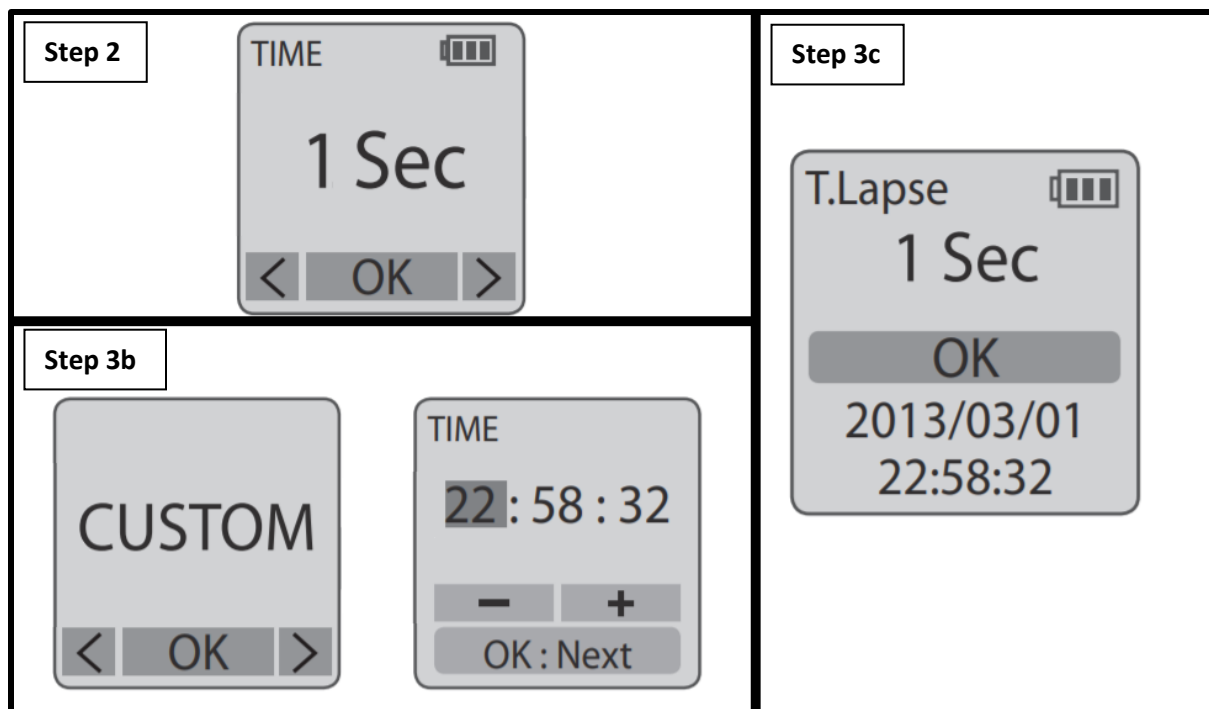

Figure A.11.2: The different “Time” screens are shown on the left. The setup screen with the chosen time interval is shown on the right.
2. Click on the “TIME” button. This will take you to the “TIME” screen as shown on the top left of Figure A.11.2. This screen allows you to set the time interval in which the Brinno TLC200 Pro Time Lapse Camera will wait before taking the next time lapse photo.
- b. Select the “CUSTOM” option if you would like to set a custom time interval as shown on the bottom left of Figure A.11.2. Use the “MENU” and “TIME” buttons to set up the hours, minutes, and seconds, pressing “OK” after setting each time value to move onto the next time value.
- c. Press the “OK” button which will take you back to the setup screen. The setup screen should display the interval that you have selected as shown on the right of Figure A.11.2.